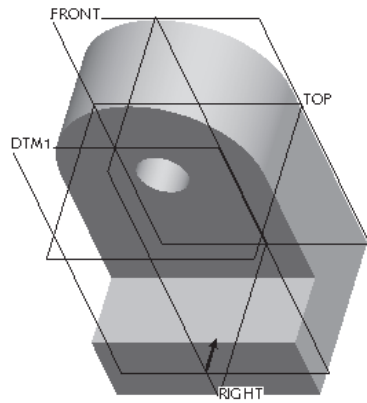

Figure 4-65 Arrow on **DTM1** showing the direction of viewing the sketching plane
3. Select **DTM1** as the sketching plane for the third feature. A yellow arrow is displayed on the selected datum plane, as shown in Figure 4-65. This arrow shows the direction of viewing the sketching plane.